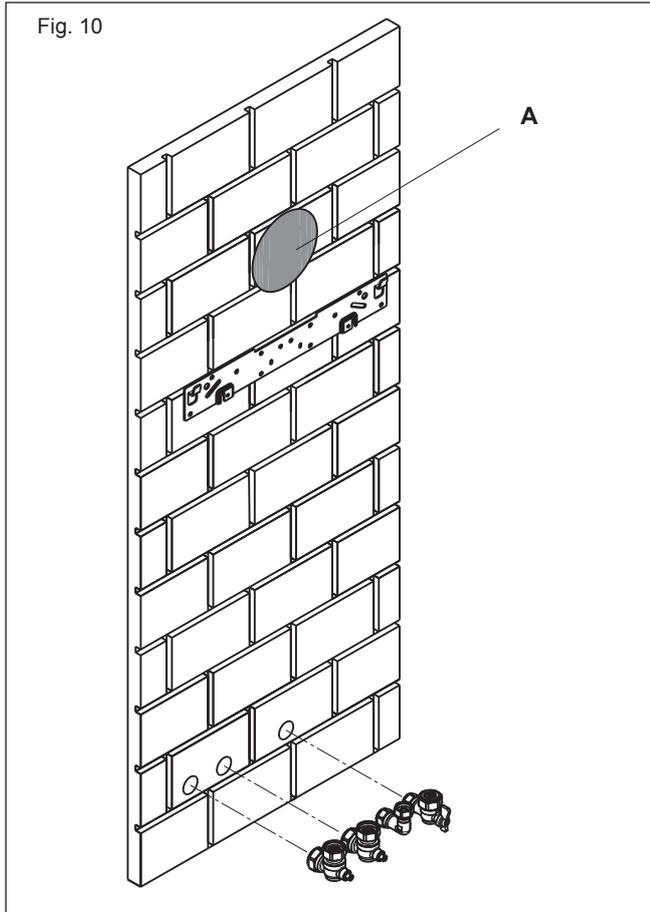

Fig. 10
When the position of the appliance has been decided – using the template supplied – carefully mark the position of the wall mounting bracket (see "Fig. 10") and flue-hole (if applicable).
Fig. 10: Using the template provided (A), mark and drill a 125mm hole for the passage of the flue pipe. The hole should be drilled to ensure any condensate fluid that forms, is allowed to drain back to the appliance. The fixing holes for the wall-mounting bracket should now be drilled and plugged, an appropriate type and quantity of fixing should be used to ensure that the bracket is mounted securely. Once the bracket has been secured to the wall, mount the appliance onto the bracket.